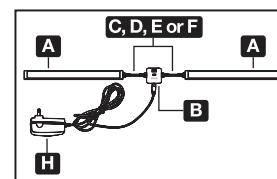

FIG. 6
**Split Configuration:** For layouts where preferred power source is centrally located within cabinets/mounting surfaces. (See FIG. 6)